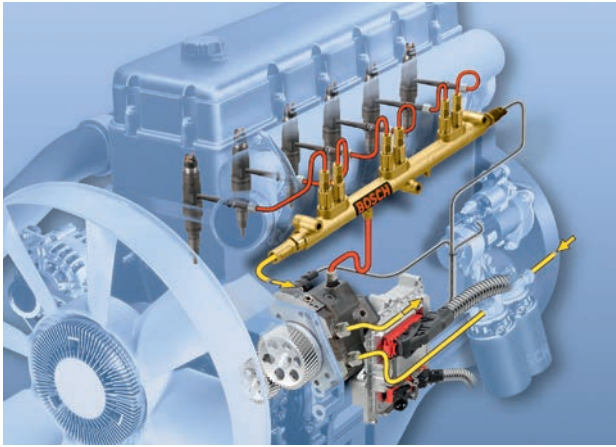

Figure 2.288 Common rail system. (Source: Bosch Media)
The development of diesel fuel systems is continuing, with many new electronic changes to the control and injection processes. One of the latest developments is the common rail (CR) system, which operates at very high injection pressures (Fig. 2.288). It also has piloted and phased injection to reduce noise and vibration.